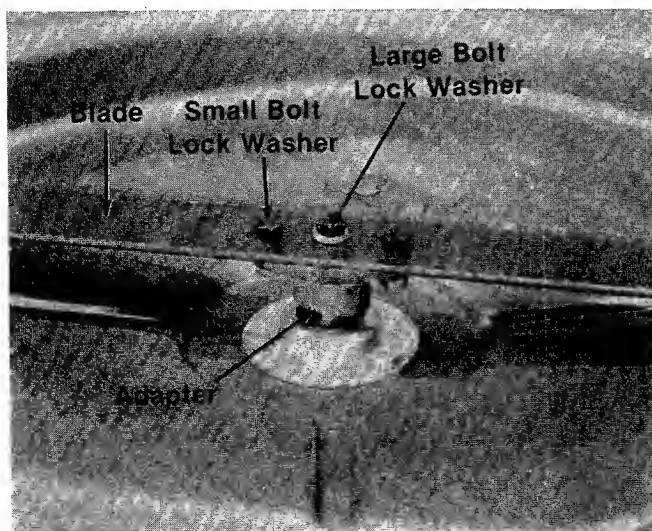

FIGURE 37.
1. Remove the large bolt and lock washer holding the blade and adapter to the blade spindle. See figure 37.